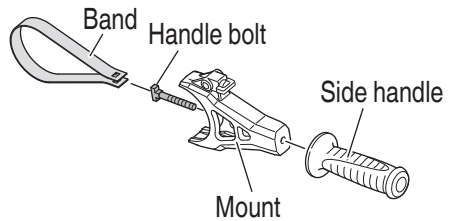

Fig. 1
- (1) Check that you have all the parts of the Side Handle. (**Fig. 1**)